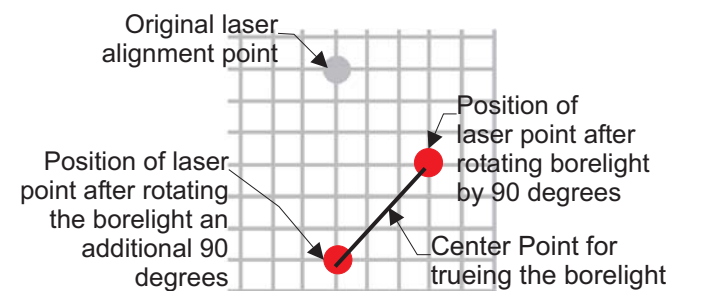

FIGURE 2-6
9. Next, mark the point that is exactly one-half the distance between the two points marked in Steps 7 and 8 above, the "Center Point". See Figure 2-6 below.